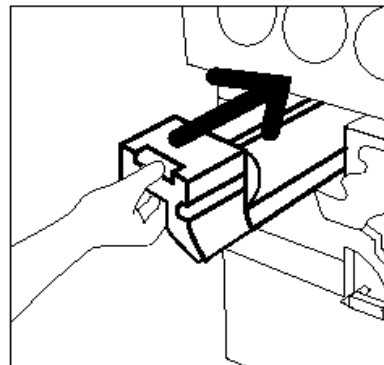

Figure 32: Inserting the new Copy/Print Cartridge
- 7 Align the new Copy/Print Cartridge with the arrow on the copier/printer, then slide the new Copy/Print Cartridge into the copier/printer, as illustrated in Figure 32.